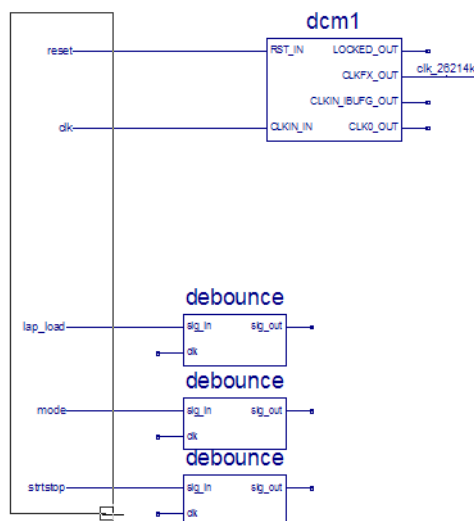

Figure 3-29: Adding I/O Markers to Labeled Nets
3. Place the name on the leftmost end of the net, as shown in Figure 3-29.